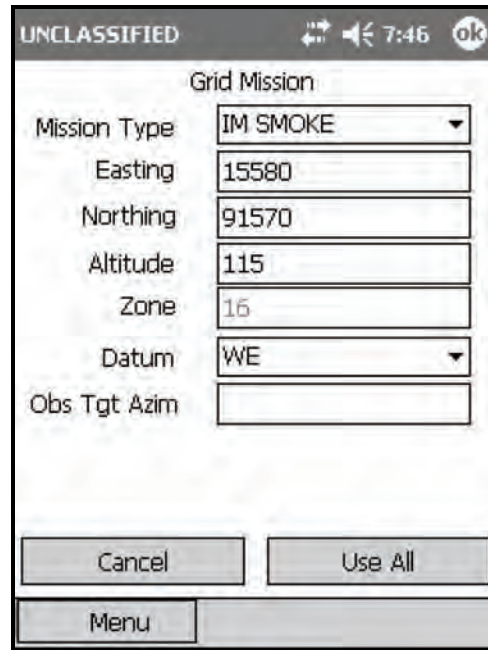

Figure 18-82. Immediate Smoke: Mission Initialization screen.
- (1) Select Menu.
- (2) Select Manual Missions.
- (3) Select Grid Msn.
- (4) Change the Mission Type to IM SMOKE, and complete the rest of the target location information (Figure 18-82).